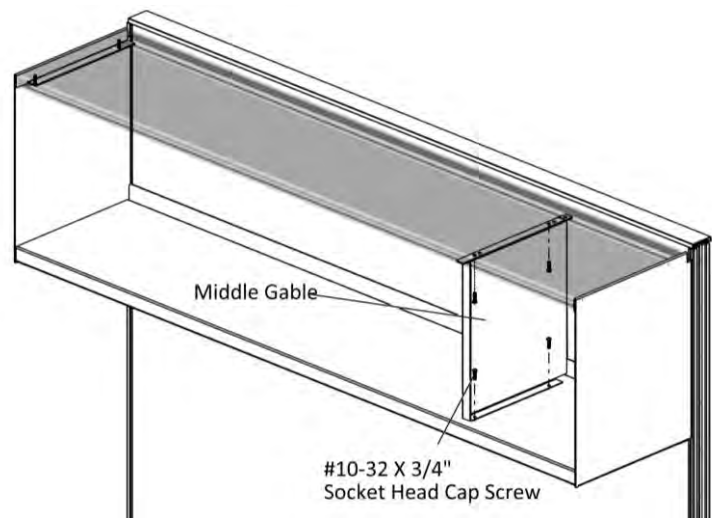

Figure 5
- 7. Position the middle gable at the desired location and securely fasten it to the top and bottom shelves with 10-32 X 3/4" Socket Head Cap Screws, (Figure 5).